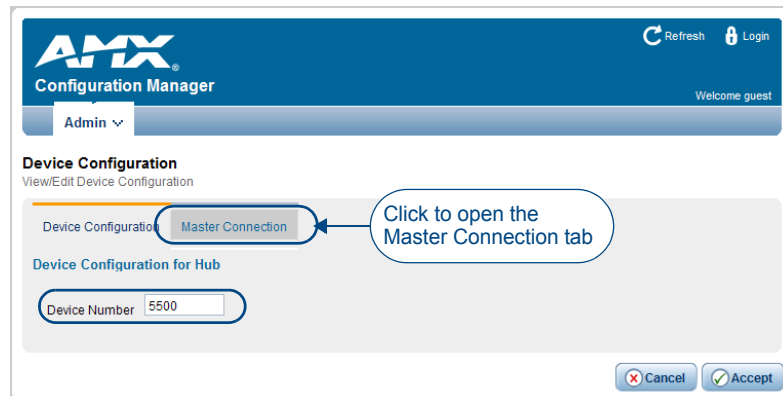

FIG. 46 Device Configuration page (Device Configuration tab)
Select **Device Configuration** from the Admin menu to access the *Device Configuration* page (FIG. 46). Use this page to view/edit the device configuration for the HDMI UTPro. Note that this page has two tabs: *Device Configuration* and *Master Connection*.
1. Click the Login link in the upper-right corner of the initial page (FIG. 46 on page 72).